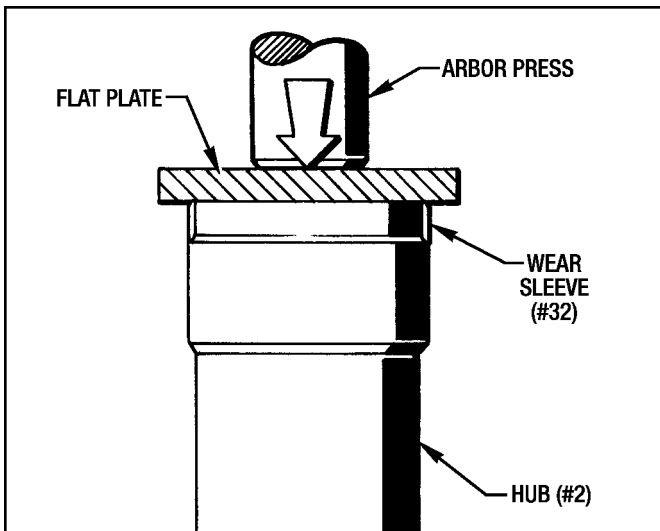

Figure 7.13 - Installing Wear Sleeve (#32) on MSB12
2. Place the Hub (#2) into an Arbor Press and with a flat plate as shown in Figure 7.13 on the next page press the Wear Sleeve (#32) on to the Hub (#2) as far as it will go. Clean off any excess Loctite